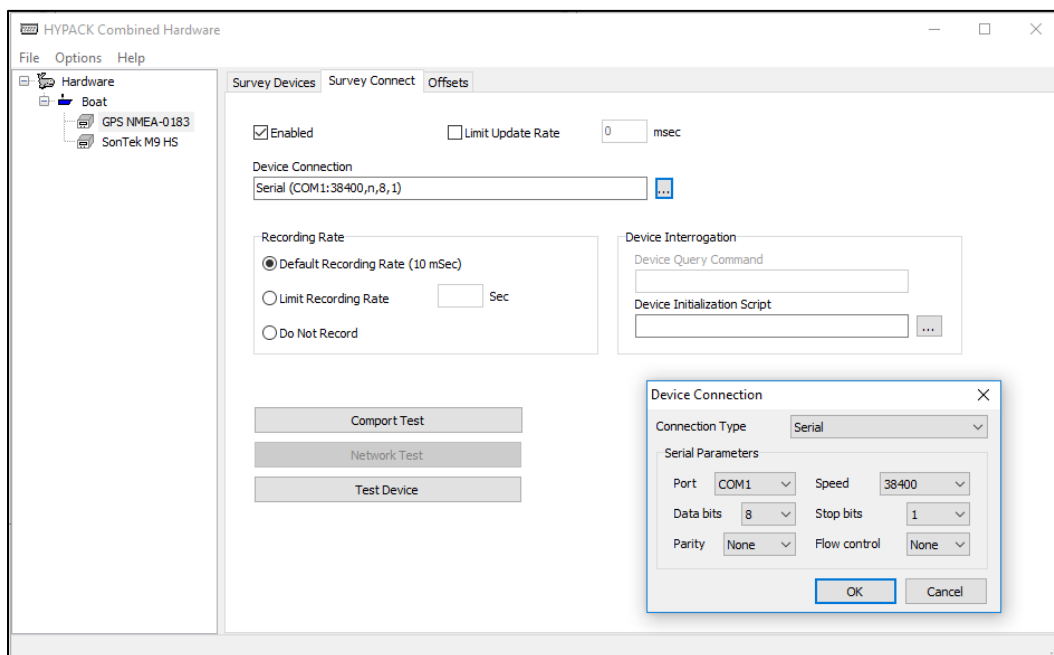

Figure 6.—Survey Connect tab for the selected GPS device within the HYPACK Combined Hardware window.
2. While still within the HYPACK Combined Hardware window, select the **“Survey Connect”** tab (to the immediate right of the Survey Devices tab). Click on the small box containing ellipsis, just right of the long Device Connection box. In the Device Connection popup window, the user can connect to the GPS device with the following settings (figure 6).
Note: The COM port may vary depending on the user’s laptop (figure 6).
Back under the Survey Connect tab, click on “Test Device” to verify receipt of NEMA string data from the GPS receiver (figure 6).